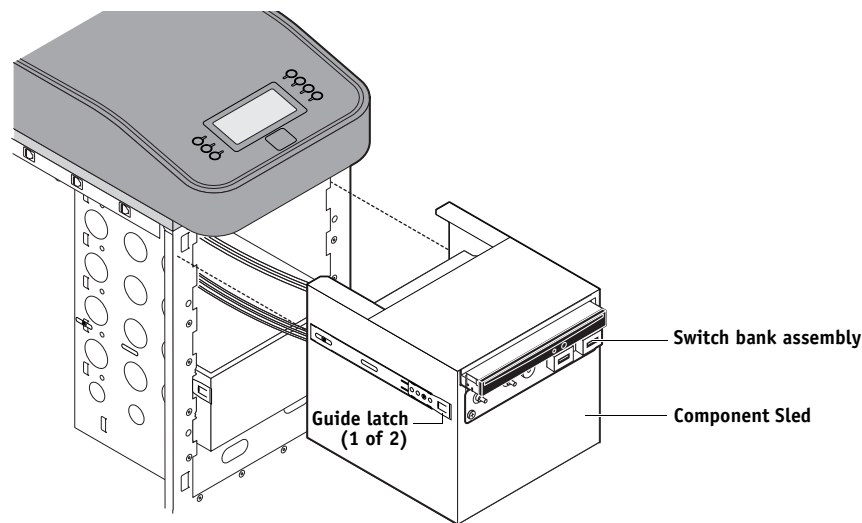

FIGURE 37: Removing/replacing the Component Sled from the chassis
3. **Install the Component Sled in the chassis (see Figure 37).**